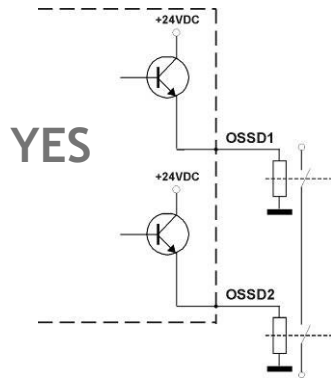

Fig. 16
- The OSSD1 and OSSD2 safety contacts cannot be connected in series or in parallel, but can be used separately (Fig.16). If one of these configurations is erroneously used, the device enters into the output failure condition (see section 7 “Diagnostic functions”).